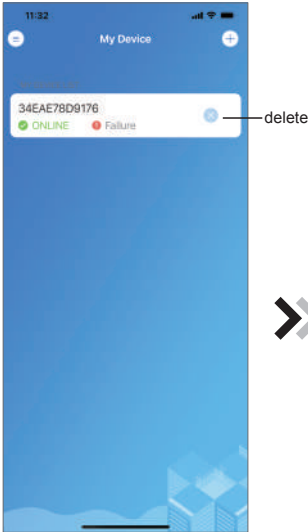

Fig.19 Device management interface
- 9. After WIFI bonding is done, and jump back to My Device(Fig. 19);
- 10. After WIFI bonding is done, and jump back to My Device(Fig. 19);